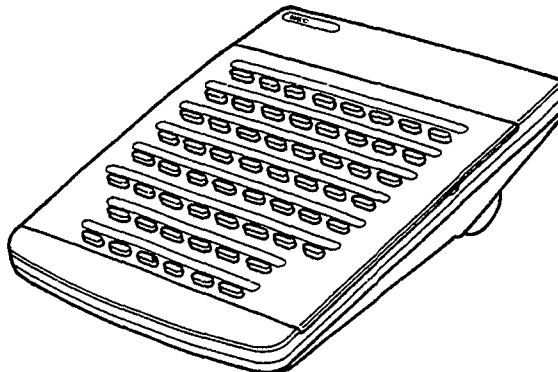

Figure 4-9 EDW-48-( ) (BK)/(SW) Console
The Attendant Add-On Console has 48 programmable keys with two LEDs (red and green), 12 function keys with one-color LED (red), and a tilt stand. Refer to Figure 4-9 - EDW-48-( ) (BK)/(SW) Console.